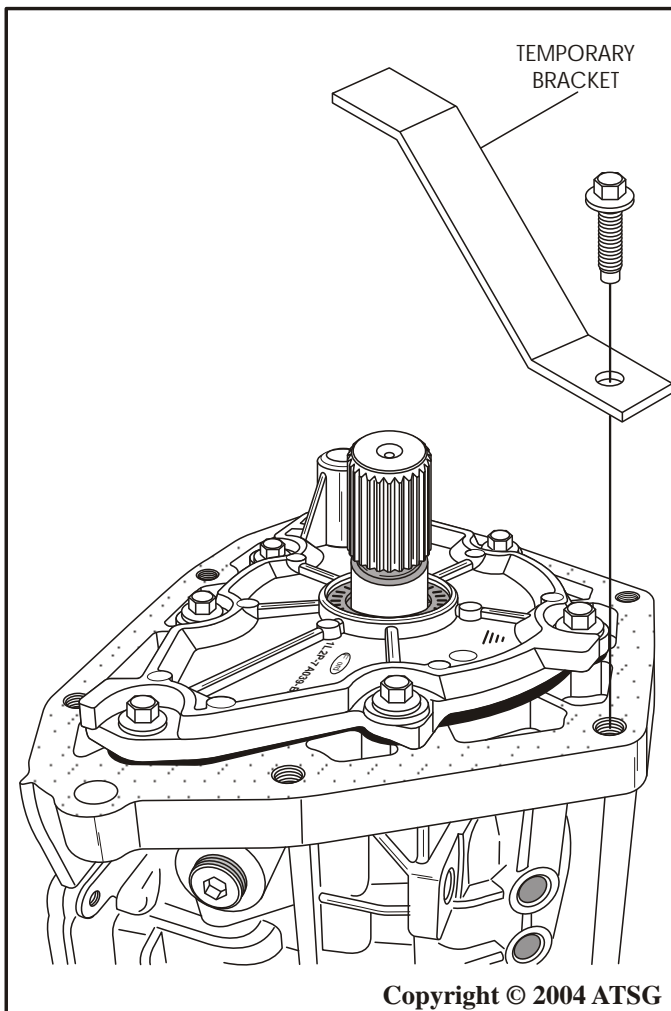

Figure 177
83. Rotate transmission in fixture so that the rear is facing up, as shown in Figure 177.
84. Remove the output shaft holding strap if you have not already done so (See Figure 177).